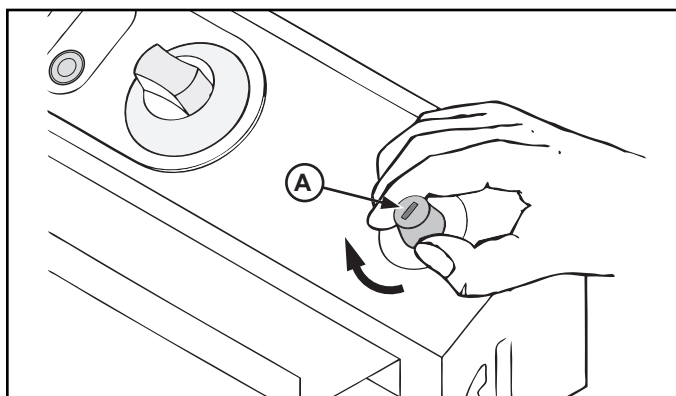

Figure 5. Switch Cover Installation
- Replace the switch cover and secure by screwing clockwise. See Figure 5.